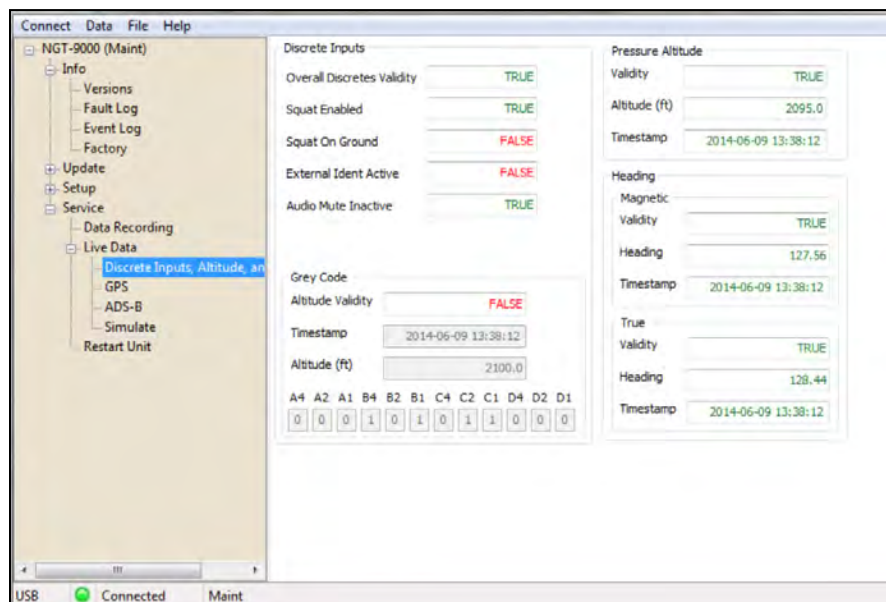

Figure 3-15: Lynx MAT – Live Data - Inputs
1. From the Lynx MAT select Service→Live Data→Discrete Inputs, Altitude, and Heading. An example of this page is shown in Figure 3-15.